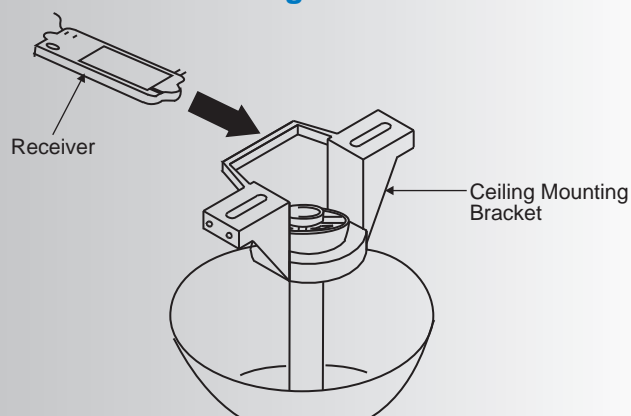

Fig. 16
**Step 1.** Insert the receiver into the ceiling mounting bracket with the flat side of the receiver facing the ceiling. (Fig. 16) For best performance, make sure the Black Antenna, on the end of the receiver, remains extended and not tangled with any of the electrical wires.